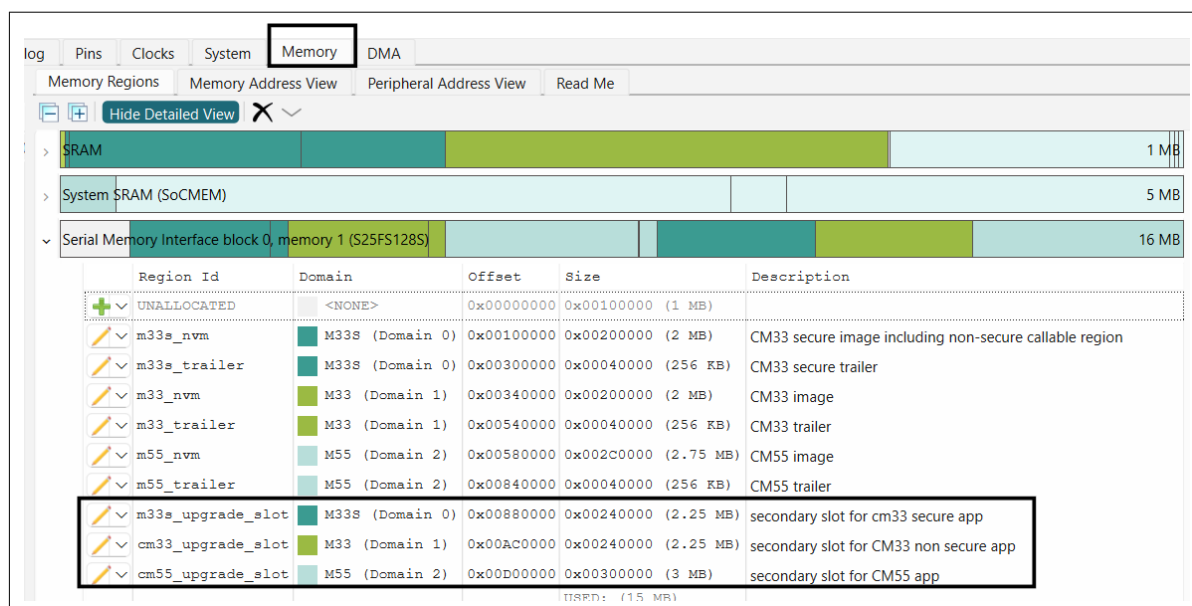

Figure 14 Add secondary slot regions in external flash
11. Add new secondary slot regions in the external flash memory for all three projects as shown in Figure 14